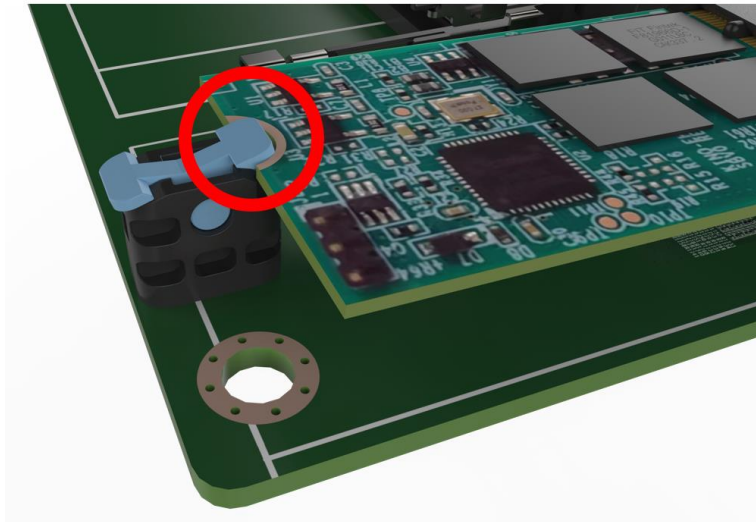

Figure 3-10: Insert M.2 Card
Step 4: Insert M.2 card. The notch at the end of the M.2 card needs to be aligned with the notch of the fixed buckle (Figure 3-10).